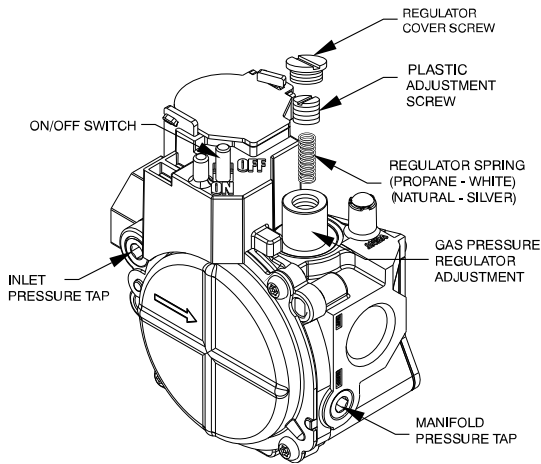
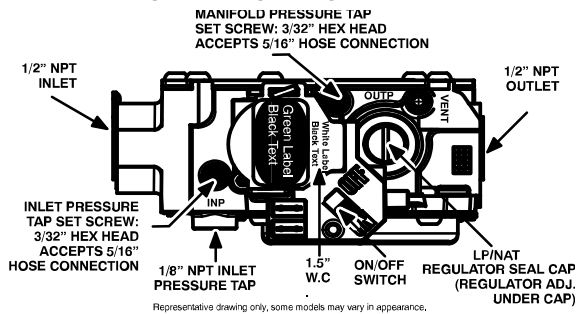

Fig. 29 – Single-Stage Gas Valve
Fig. 30 – Single-Stage Gas Valve with Tower Pressure Ports
- b. For Ultra Low NOx units with standard gas valve, remove manifold pressure tap cover using an allen wrench. (See Fig. 29.) Install barbed pressure tap and hose to connect to manometer. Turn on gas supply to unit.
- c. For gas valve with tower pressure ports, loosen set screw on manifold tower pressure tap no more than one full turn counter-clockwise with a 3/32-in. hex wrench. (see Fig. 30.) Connect manometer by sliding 5/16-in connecting hose over the manifold tower pressure port. Turn on gas supply to unit.
1. Remove regulator cover screw over plastic adjustment screw on gas valve (See Fig. 29 and Fig. 30).
2. Turn plastic adjustment screw clockwise to increase gas input, or turn plastic adjustment screw counterclockwise to decrease input (See Fig. 29 and Fig. 30). Manifold pressure must be between 3.2 and 3.8 IN. WC.
3. Replace regulator cover screw on gas valve (See Fig. 29 and Fig. 30).
- c. For gas valve with tower pressure port, remove connecting hose. Tighten set screw clockwise on manifold pressure port using a 3/32-in hex wrench. (See Fig. 30.)